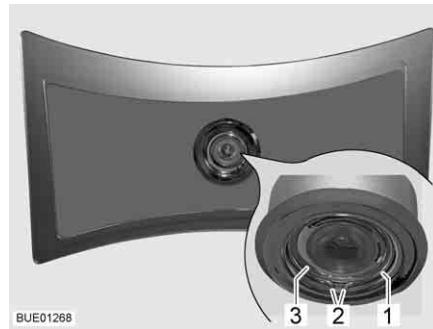

Fig. 267 Ceiling lamp
- Press the two ends (Fig. 267,2) of the spring ring (Fig. 267,1) together and remove.
- Remove the housing (Fig. 267,3) with LED from the lamp.